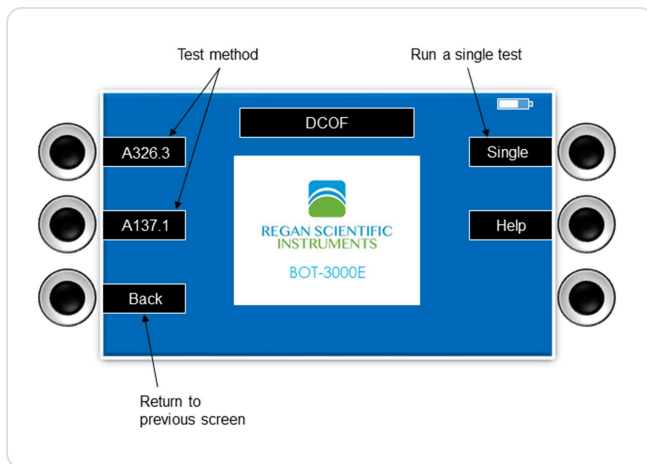

Figure 3. Choosing a DCOF test method.
- 5 In DCOF mode, choose **SINGLE** for one test, or select a standard test method (Figure 3).